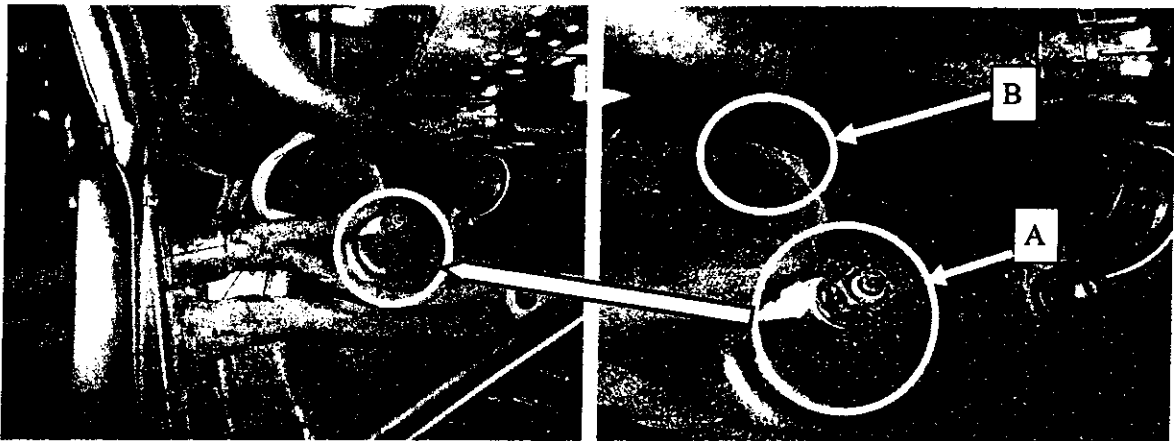

Figure 18: Mounting the ground wiring harness on the threaded stud of the body
Note: The position of the cable lug must be maintained as shown in Figure 18 (A). Chafing marks are to be avoided!